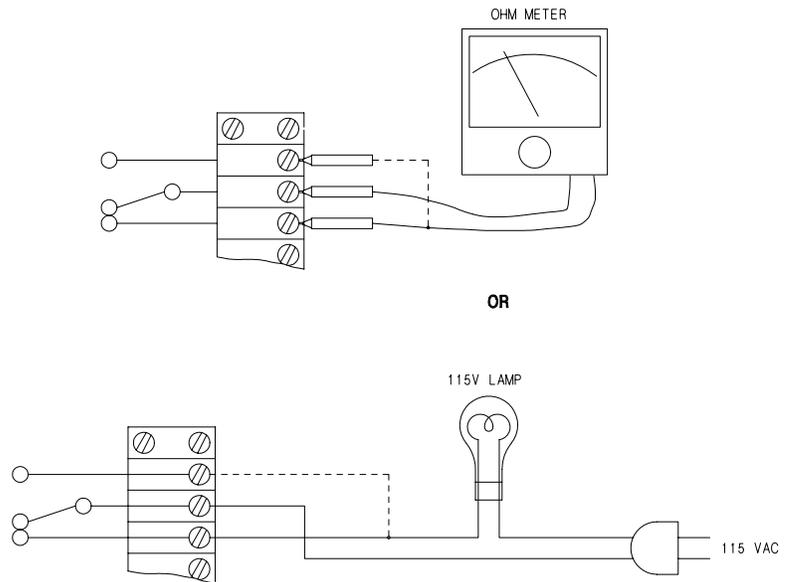

Figure 4-4
- C. Relay operation may generally be heard as an audible click when the background noise is not too high. Use one of the methods shown in Figure 4-4 to determine if the relay contacts are switching.